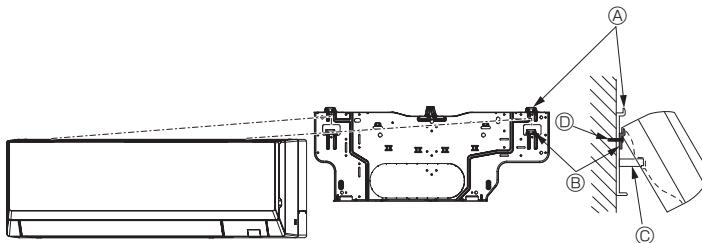

Fig. 3-26
- When the indoor unit cannot be hung and lifted up with the regular hook (the dimension of 2.1. ⑧ (the clearance between the ceiling and the unit) is 75 mm, 2-61/64 inch or less), hang the unit on the lower hook. (Fig. 3-26)
##### (Fig. 3-26)